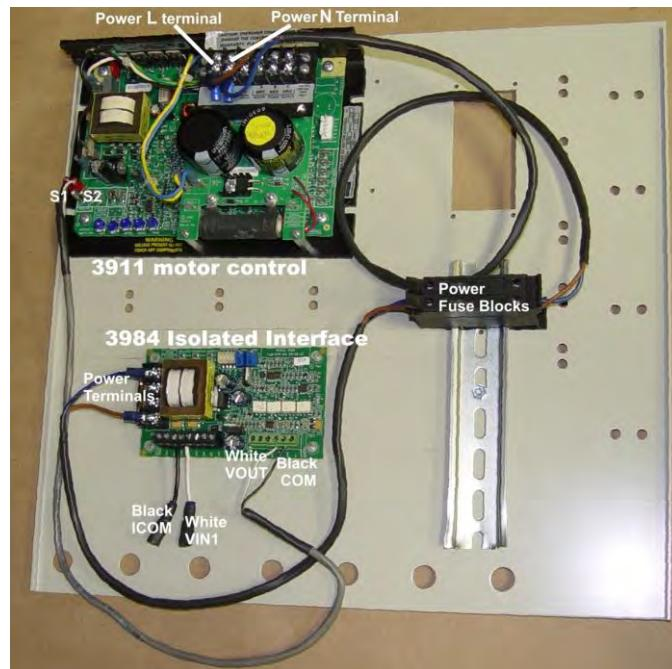

Figure 1 Motor control Panel Layout
4.4 Using the supplied Mounting Template for the 3984 Isolated Interface Module, mark for 4 holes. Drill using 4 mm (5/32 inch) drill bit. In a convenient place on the motor control panel. (see Figure 1)
4.7 Take these same wires and Plug black S1 into ICOM and white S2 into VIN1 connectors on the 3984 Isolated Interface Module. (see Figure 1)